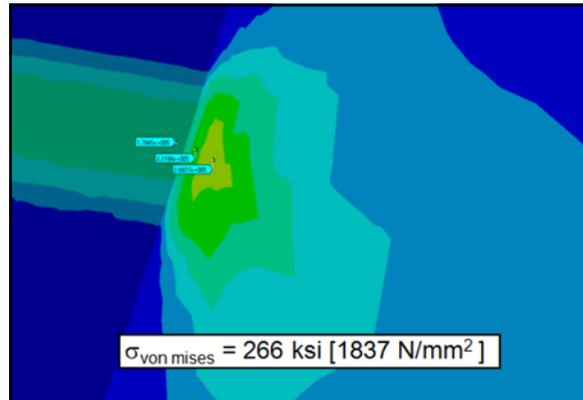

Figure 11 Storm holding von Mises stress.
- Figures 11, 15 — von Mises stress